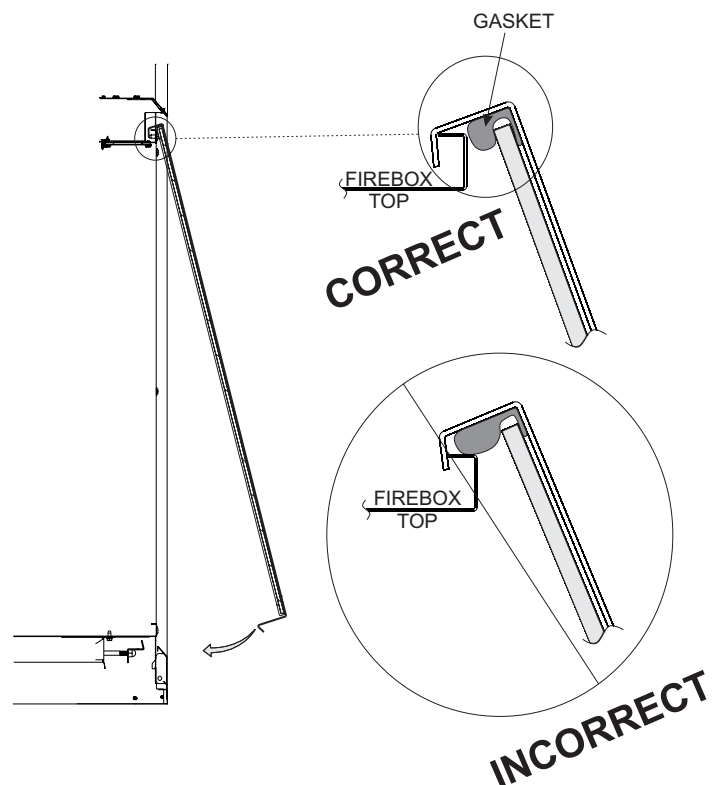

Figure 68
1. When installing the Glass Door assembly, make sure that the door top flange is hooked over the firebox top flange as illustrated in the "Correct" view in Figure 68.
**Important: Do not allow the gasket across the top of the door to roll up on top of the firebox flange as shown in "Incorrect" view in Figure 68.**